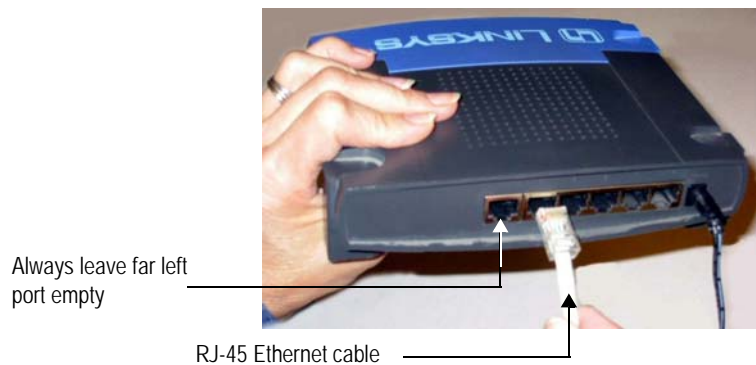

Figure 3.2 Connecting RJ-45 Ethernet Cable to Router, Port 1
- 3 Leaving the far left port empty, connect one end of the RJ-45 Ethernet cable into one of the four slots in the router. See Figure 3.2.